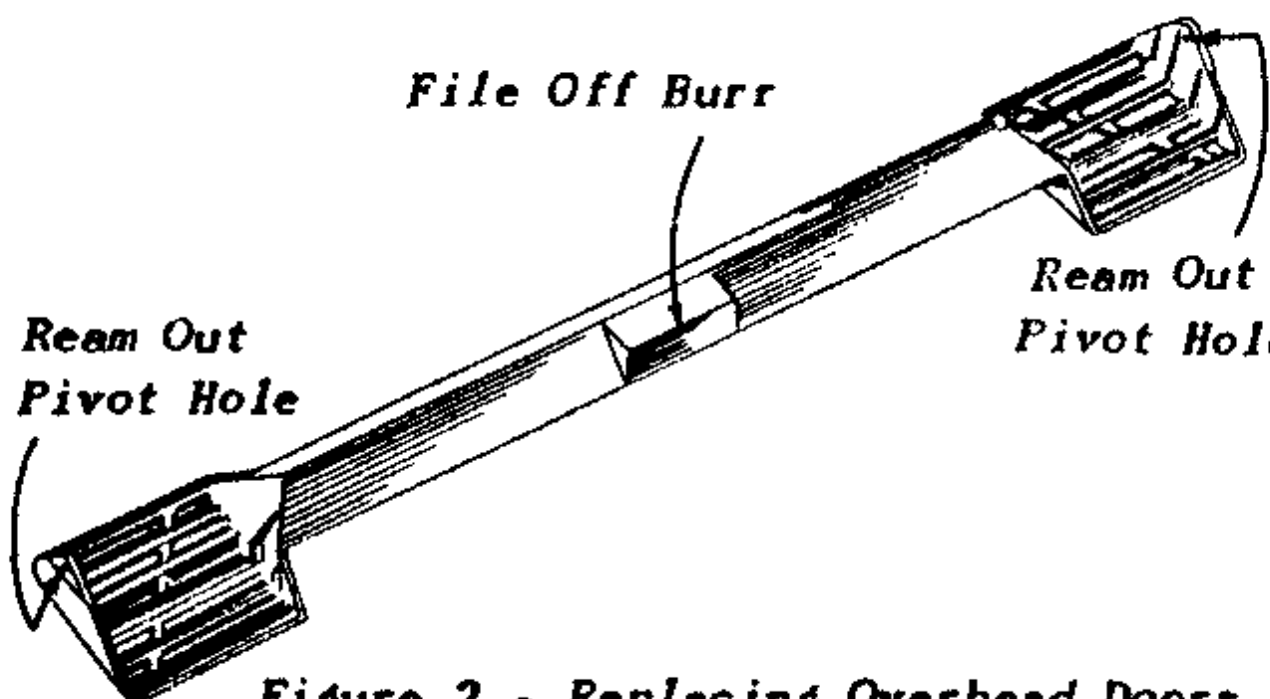

Figure 2 - Replacing Overhead Doors
2. *Replacing Overhead Doors.* When replacing overhead doors it may be necessary to remove any rough spots and round off the sharp corner at the center 'cam' portion of the bar joining the two doors. Clean out the pivot holes in the ends of the bar by hand-reaming with a #55 drill. (See Figure 2).